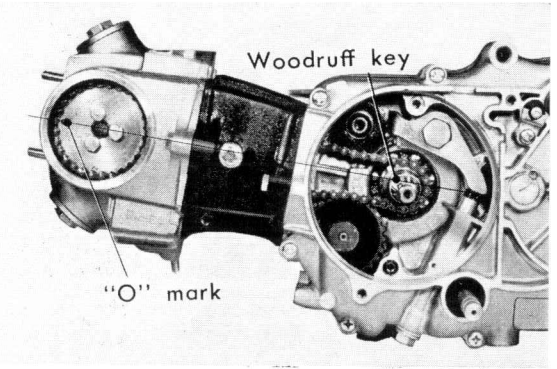

Figure 3-19. Removing cam sprocket
- (1) Drain the oil
- (2) Remove the flywheel and stator assemblies.
- (3) Remove the 6mm hex and cap nuts holding the cylinder head cover and then remove the cover.
- (4) Rotate the crankshaft so that the piston is at top dead center, by aligning the woodruff key on the crankshaft and the "O" mark on the sprocket in line with the cylinder axis and then remove the three 5mm hex bolts. (Fig. 3-19)